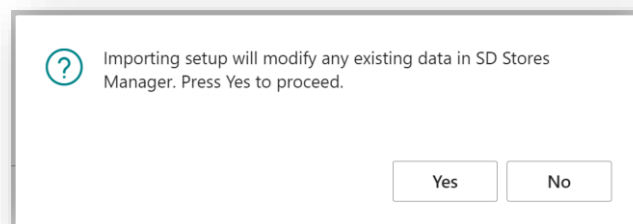

Figure 6-2
2. You are prompted that “Importing setup will modify any existing data in SD Stores Manager. Press Yes to proceed.” Choose **Yes** if this is your first time to use SD Stores Manager and you have not already created any setup in SD Stores Manager (*Figure 6-2*).